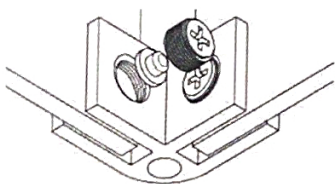
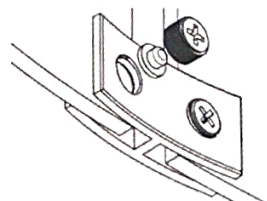

figure 1
figure 2
3. Stand the glass panel vertically and slide the bracket onto the glass. The glass should be flush with the bottom of the brackets. Fig.1 and Fig.2
4. Using a #2 Phillips screwdriver, **loosely connect the brackets to the glass panels**. Repeat until the wind guard is fully assembled. Fig.1 and Fig.2